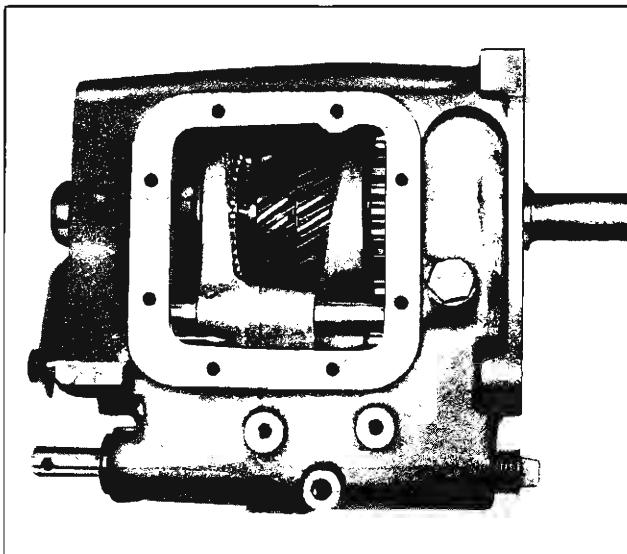

Fig. 7B-39 Fork (3-4) Installed
Then install one interlock in the 3-4 detent channel (Fig. 7B-36).
19. With the interlock pin in the hole in the interlock notch end, push the 1-2 shift fork shaft partially into the case (Fig. 7B-37). The interlock end (two op-
posite notches) of the shaft goes to the rear of the case. Engage 1-2 shift fork which is identified by the thru gate at the shift location, with the 1-2 synchronizer. Align the pin holes in the shaft and fork, and secure fork to shaft with roll pin (Fig. 7B-38).
20. Install detent ball, spring, gasket, and cap in 1-2 detent channel (Fig. 7B-9). Cap used at this location has the longer shank.